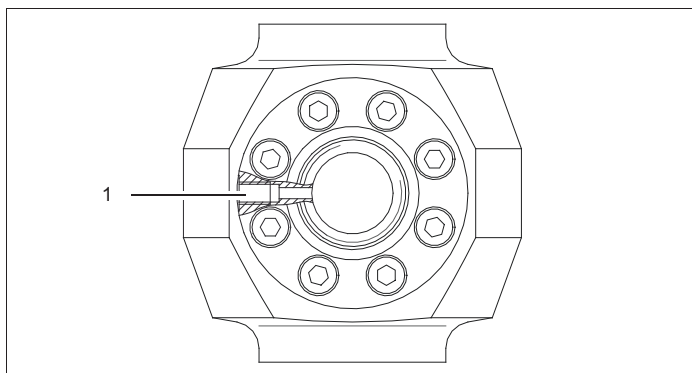

Fig. 20 Position of airpurge connection
8. Note the position of the airpurge connection (1 in Fig. 20).